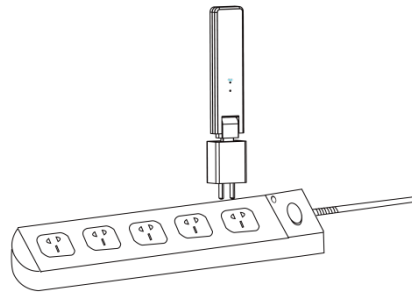

Figure 2
- b. If using a power strip, make sure that it is placed at least 1 meter above the ground, and try to install the DTU at a 90 degree angle perpendicular to the ground (Figure 2).